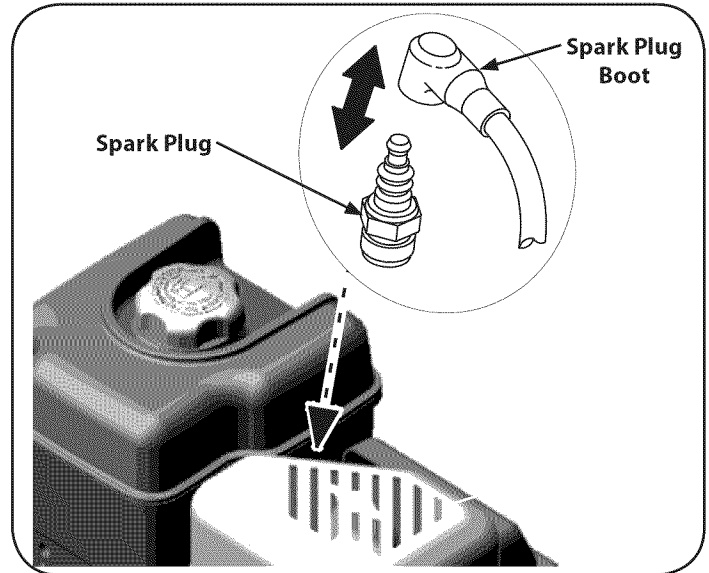

Figure 17
1. Remove the spark plug boot and use a spark plug wrench to remove the plug. See Figure 17.